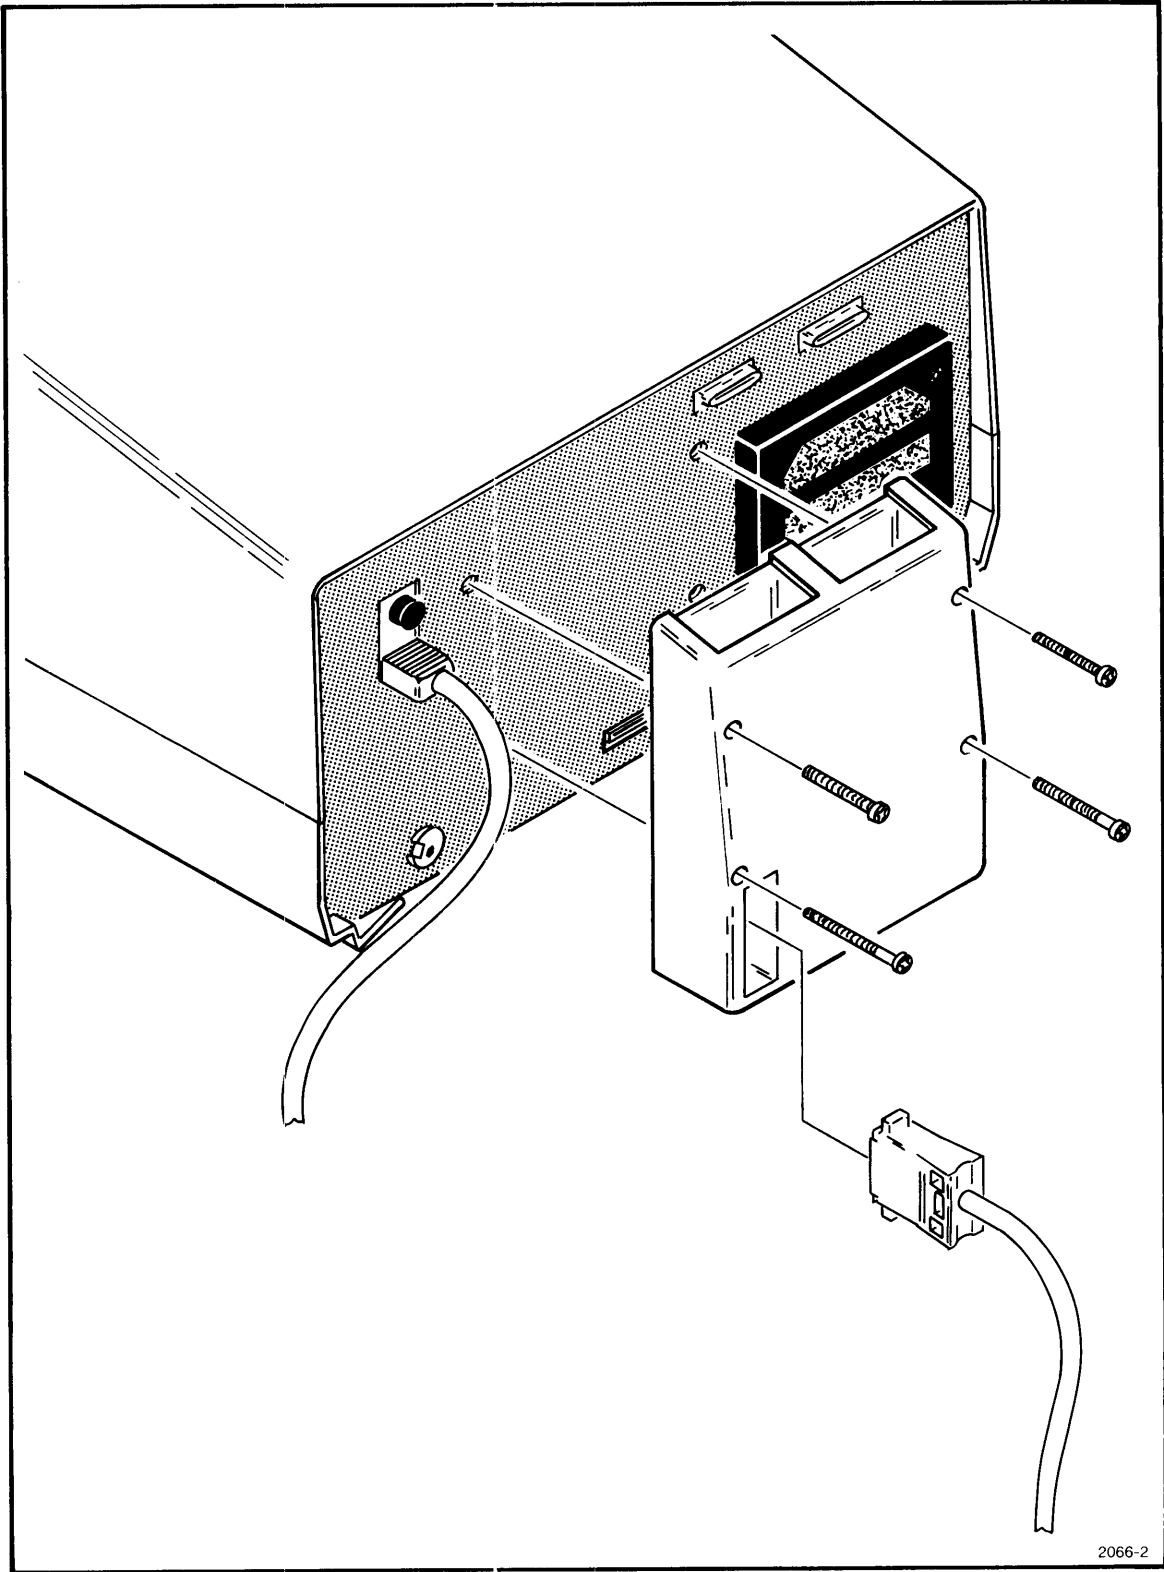

Fig. 3-1. Installing the Data Communication Interface on the Rear Panel of the 4051.
2. Use a phillips-type screwdriver to remove the four screws which hold the firmware backpack to the rear panel of the 4051 main chassis. (See Fig. 3-1.)
5. Use the same mounting screws to install the Data Communication Interface to the rear panel of the 4051. Note that the top screws are shorter than the bottom screws (see Fig. 3-1).